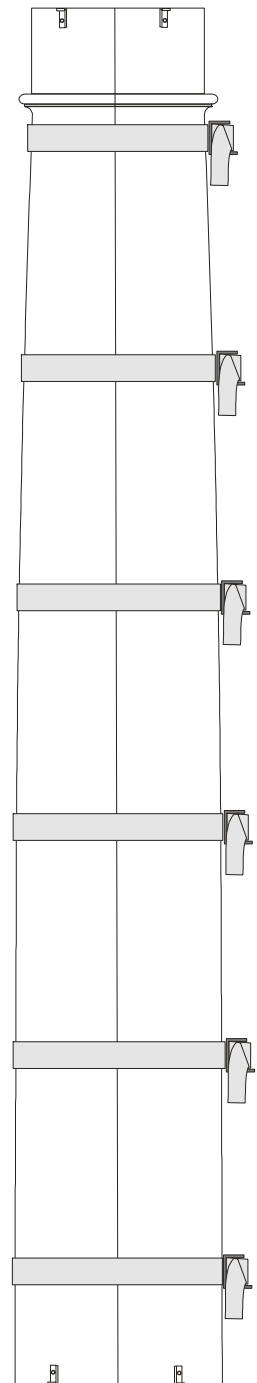

Fig. 2
6. Place shaft halves in position around existing support. Align carefully, then apply band clamps evenly spaced (fig. 2). Do not over tighten. Immediately remove any excess adhesive from the joint.